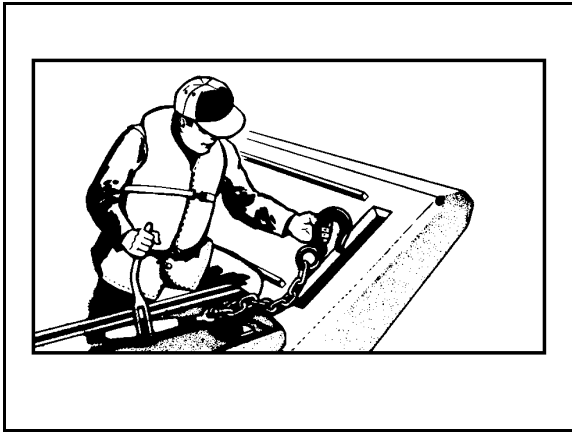

Figure 17-9. Disconnecting Load Binder
- **Step 1.** Disconnect the load binders (Figure 17-9, page 17-8).